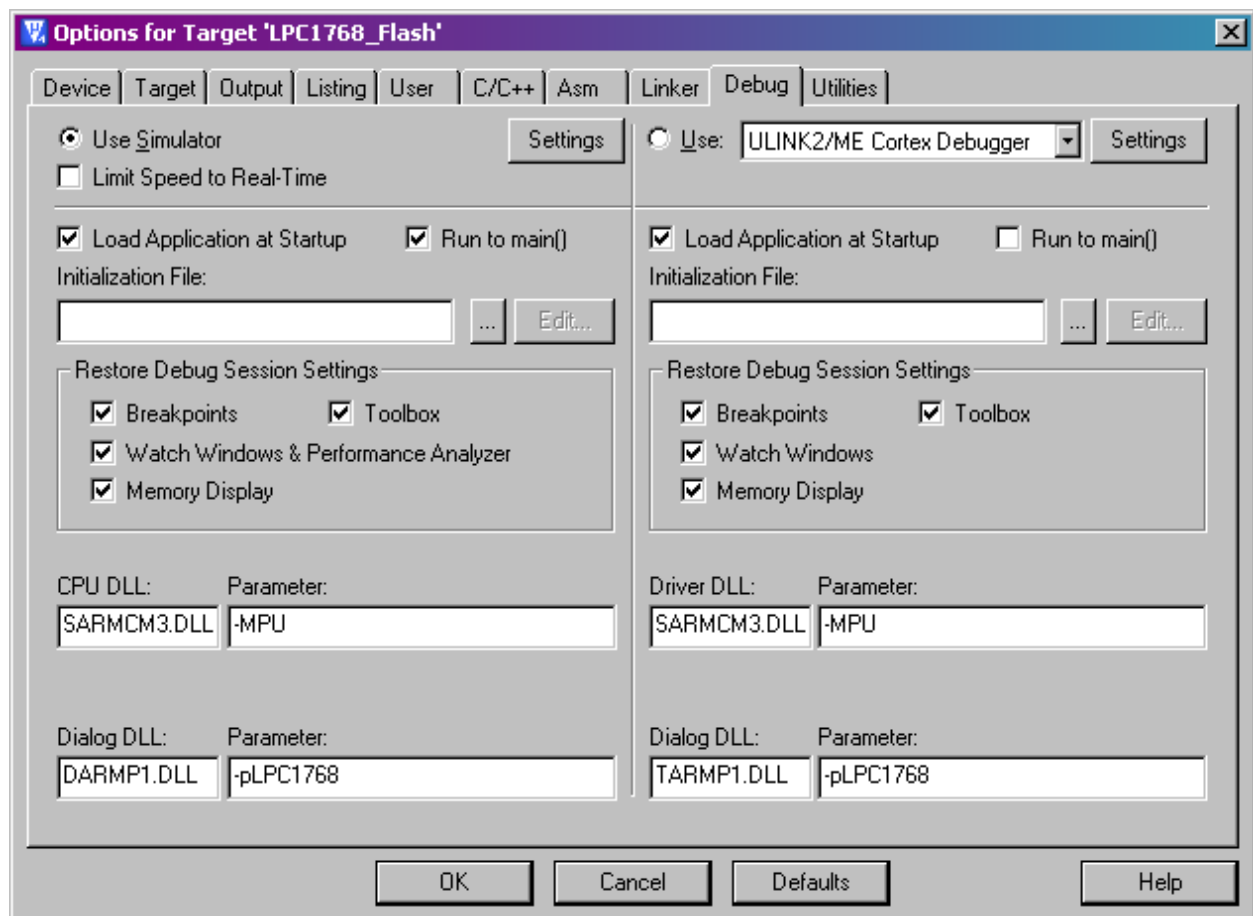

Figure 1.4 – Simulator versus MCB1700 board [5]
- 2 Right-click on the **LPC1768_FLASH** and choose the **Options for Target 'LPC1768_FLASH'** and then click on the **Debug** tab. You should see Figure 1.4